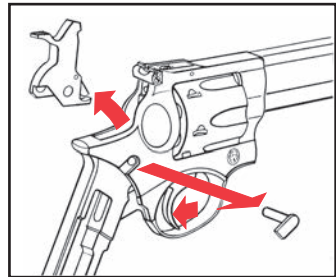

Figure 11
5. Pull trigger and remove hammer pivot while holding trigger in a rearward position. Lift hammer out of the top of the frame while trigger is held in a rearward position (see Figure 11).